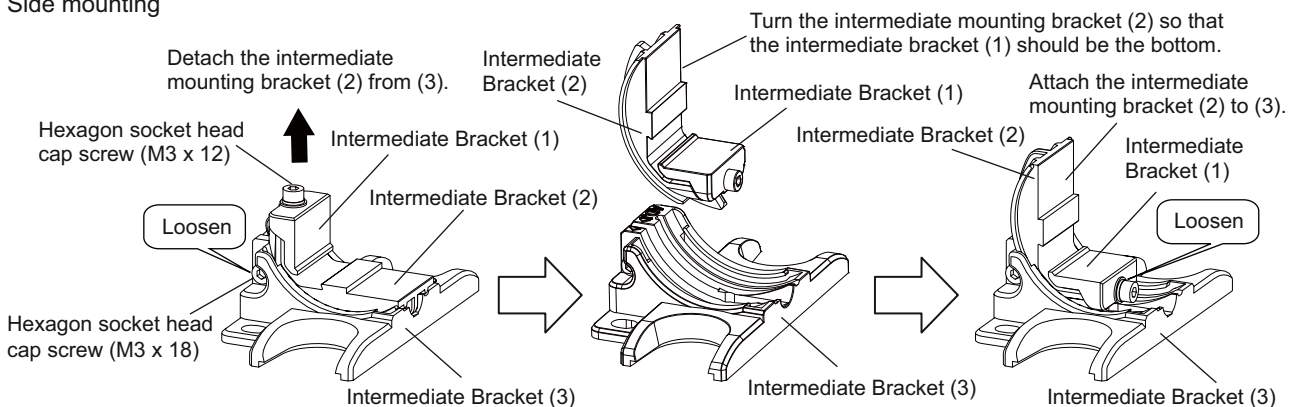

Figure 7
To use it for side mounting, remove the intermediate bracket (2) from the intermediate bracket (3) and change the direction of the bracket as shown in Fig.7.